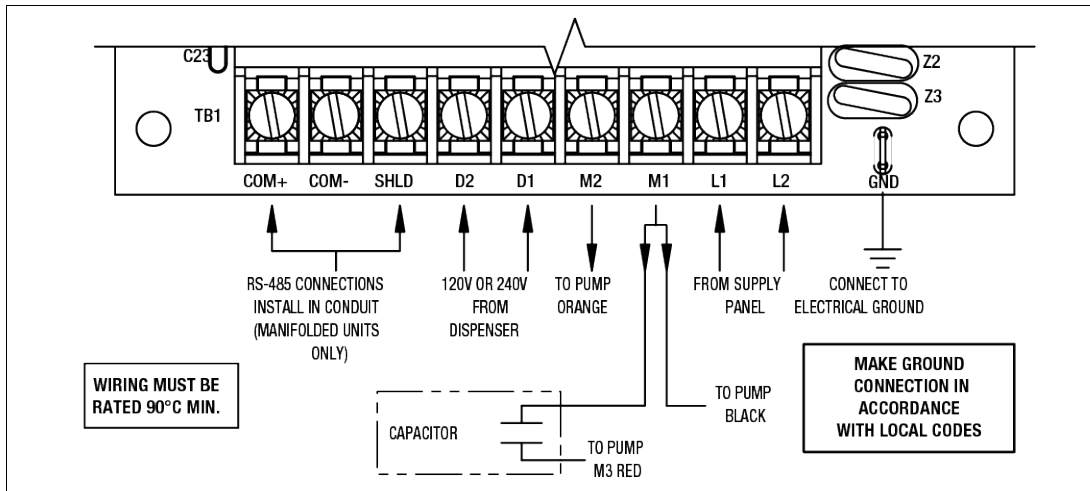

Figure 3. -Terminal Block TB1, Models -058, -059
5. Motor leads M1 and M2 should be terminated to the M1 and M2 terminals on TB1. The M3 lead for models -058 and -059 should terminate to the splice provided lead from the capacitor in the cover (see Figure 3).